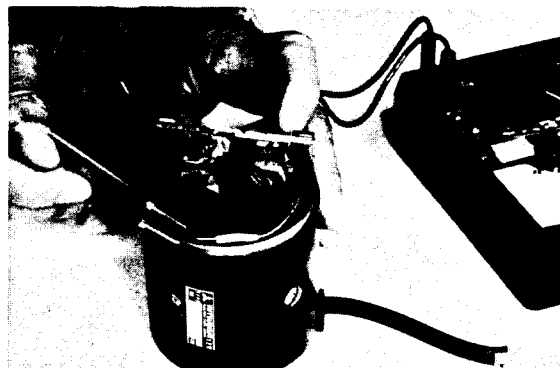

Figure 35
14. Check for continuity between one end of field coil (brush) and yoke (Fig. 35). There should be no continuity. Check for continuity between both ends of coil (brushes). There should be continuity if the field coil is good. Check the poles and coil for tightness.